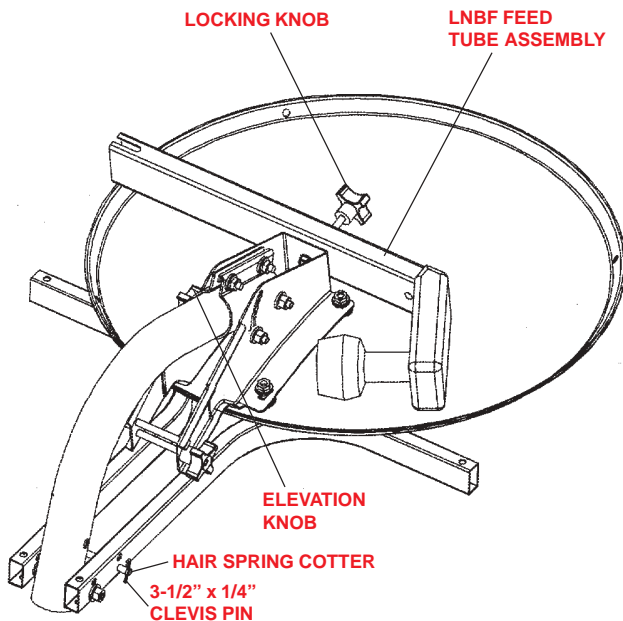

FIGURE 6
STEP 3. Store LNBF/feed tube assembly on top of dish bracket assembly, with LNBF facing downward. Tighten locking knob. See Figure 6.